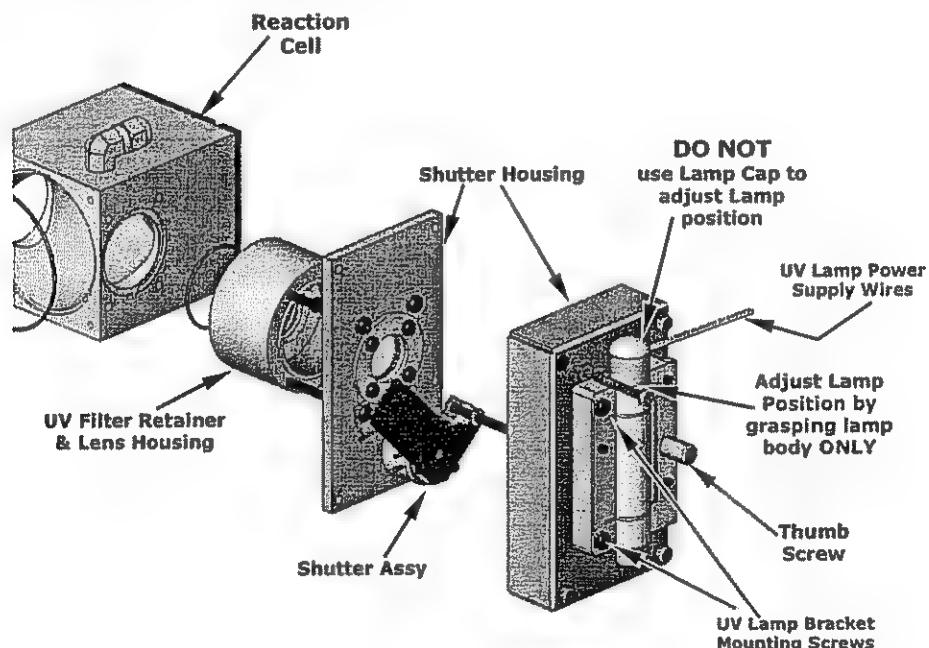

Figure 11-14: Shutter Assembly - Exploded View
2. Slightly loosen the large brass thumbscrew located on the shutter housing (see Figure 11-14) so that the lamp can be moved.
DO NOT grasp the UV lamp by its cap when changing its position (see Figure 11-14). Always grasp the main body of the lamp.
3. Loosen, but do not remove the two UV lamp bracket screws and the large brass thumbscrew located on the shutter housing (see Figure 11-14) so that the lamp can be moved.